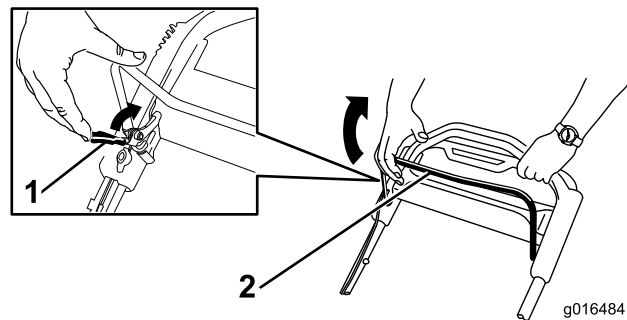

Figure 21
2. **Slowly** pull the blade-control bar back to the handle (Figure 21).
1. Pull the blade-control-bar lock back to the blade-control bar (Figure 21).